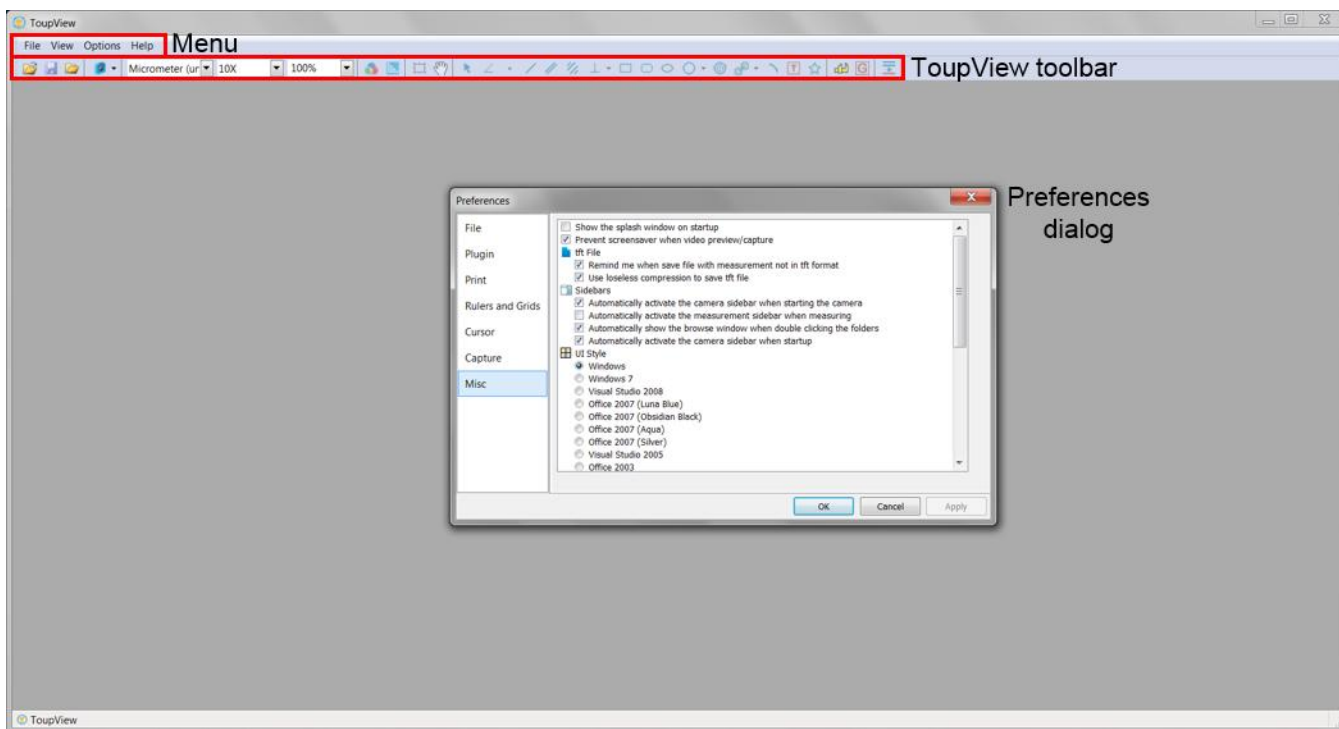

Figure 23. ToupView window and Preferences dialog
- 2) Choose **Options > Preferences** from the **Menu toolbar**. The **Preferences dialog** will appear, as shown in Figure 23.